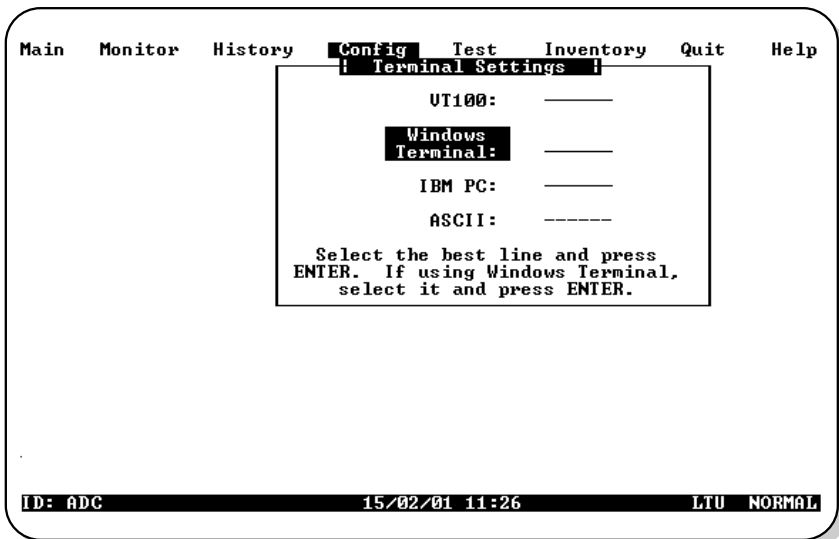

Figure 10. Config Terminal Settings Menu
- 1 Press **T** at the Config drop-down menu to display the Config Terminal Settings menu (Figure 10).